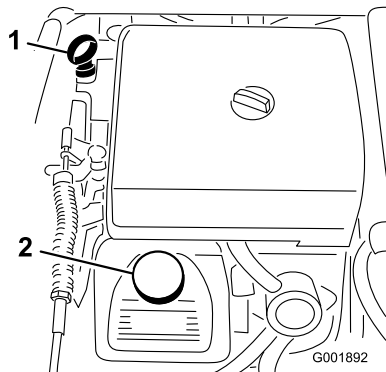

Figure 46
2. Remove the dipstick and wipe it with a clean rag (Figure 46). Insert the dipstick into the tube and make sure it is seated fully. Remove the dipstick and check the oil level.
3. If the oil level is low, remove the filler cap from the valve cover (Figure 46) and pour oil into the opening until the oil level is up to the Full mark on the dipstick. Add the oil slowly and check the level often during this process. Do not overfill.
8. Slowly pour approximately 80% of the specified amount of oil into the oil filler tube (Figure 46).